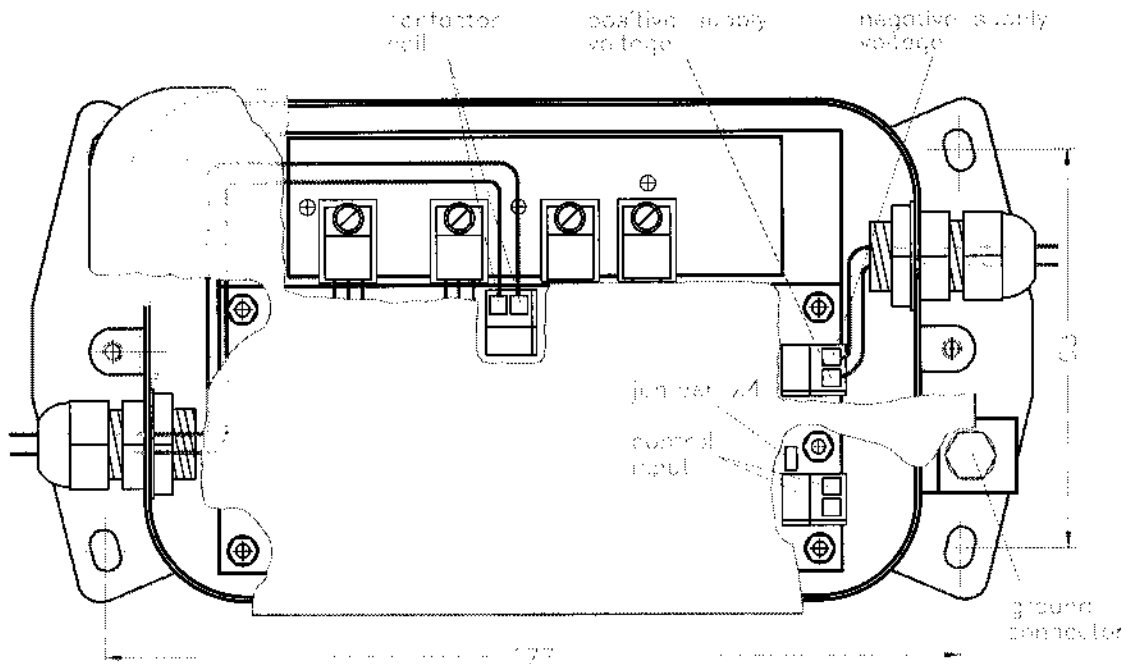

Figure 3: Dimensions of housing
- For other type of contactors the circuit is available in a separate box. Refer to figure 3 for dimensions.